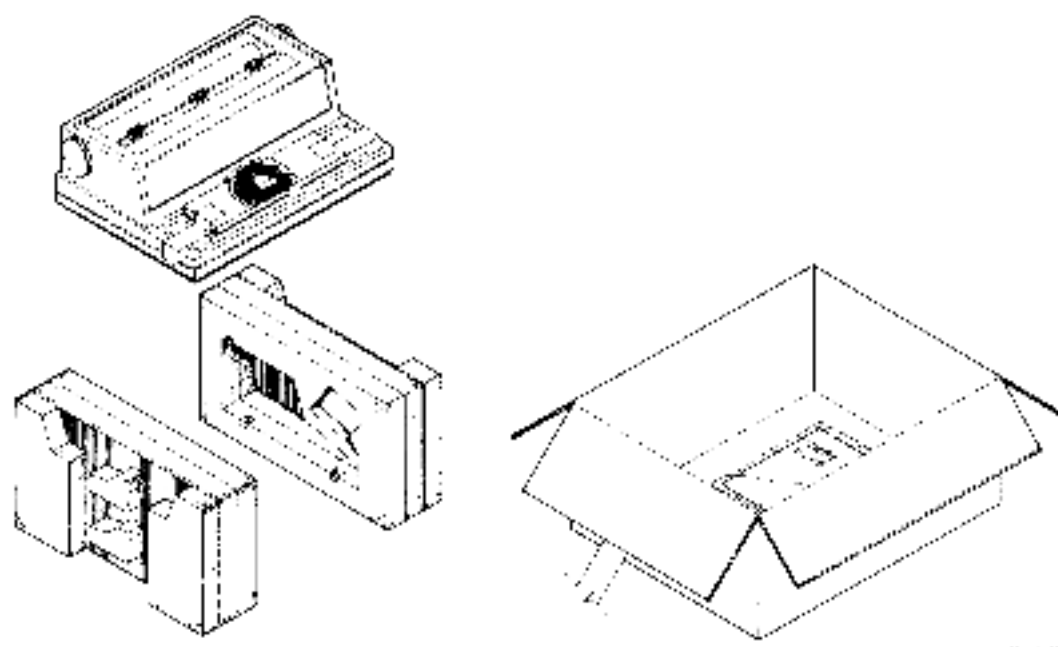

Figure 2-2 Unpacking/Packing Details
1. Open the top of the shipping carton (Figure 2-2).
2. Lift the terminal up and out of the carton. Place it on a flat, clean work surface (Figure 2-2).
3. Remove the shock absorbing material and packing from around the terminal (Figure 2-2).
4. Remove the documentation package, power cord and any other cables (Figure 2-2).
3. Repack the terminal as shown in Figure 2-2.